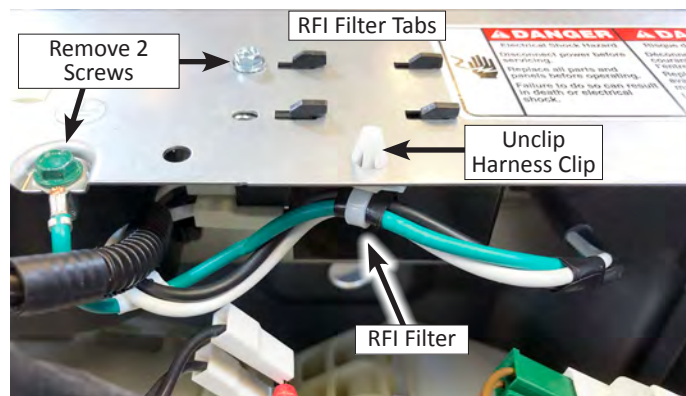

Figure 1
5. Using either a 1/4" hex-head, or T20 Torx driver, remove the "green" ground screw and the one screw securing the RFI filter to the rear bracket. See Figure 1.